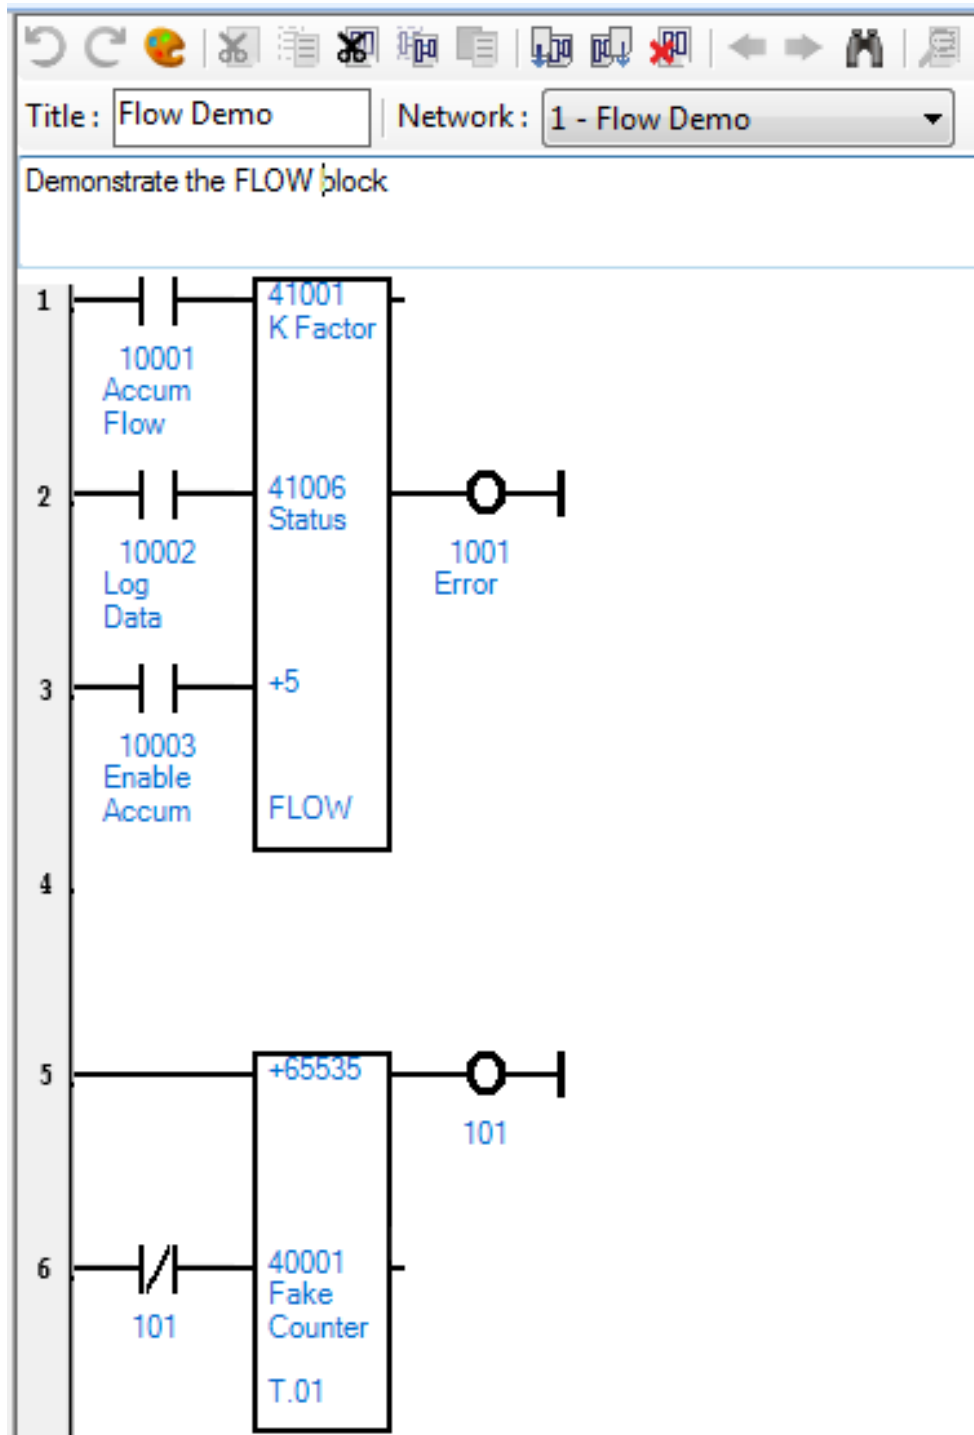

Figure 49: Ladder logic for FLOW demonstration
- Enter the ladder logic as shown in Figure 49.